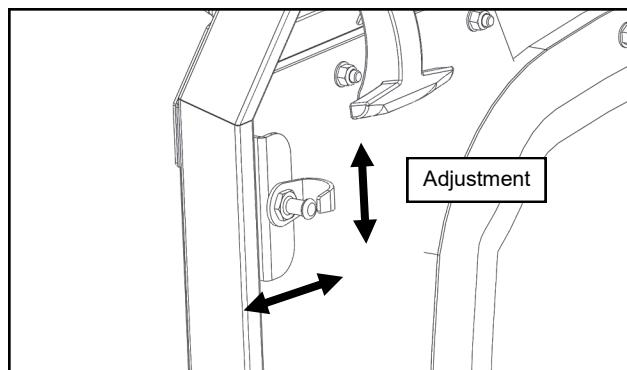

Fig. 18.4 (Striker Pin Adjustment)
- 18.4 Stand back and examine the alignment of the door with the roof and the A-pillar. You can adjust this by moving the striker pin up or down as shown in fig. 18.4 to help with alignment. *TIP: In the final step, the front of the door will drop a small amount the first time you open it. Set the front of the door a little bit higher so it aligns properly.* Adjust as necessary until you are happy with the alignment. Have an assistant sit inside the cab and once more carefully close the door like you did in step 18.2. Work with the assistant and tighten the hinge bolts.